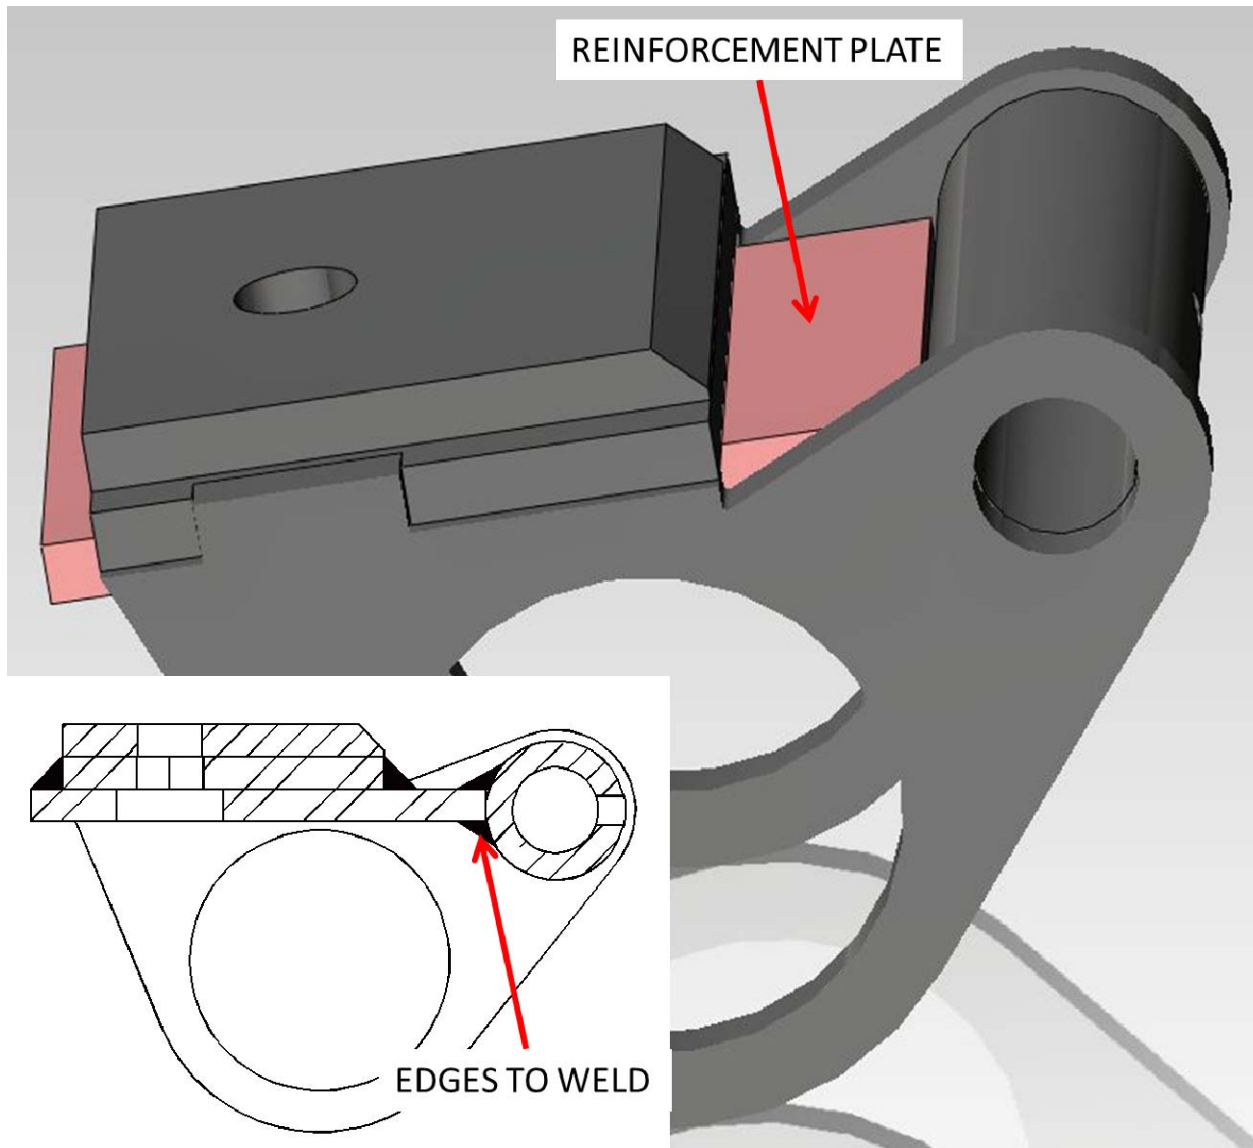

Figure 3: Rear Axle Bracket with Reinforcement Plate
4. Install the reinforcement plate as shown in Figure 3 below. Weld the top and bottom edges against the pivot tube. Also weld both lap joints between the reinforcement plate and the plate that the rubber suspension rests on. Do not attach the ground lead for the welder to the railwheel.